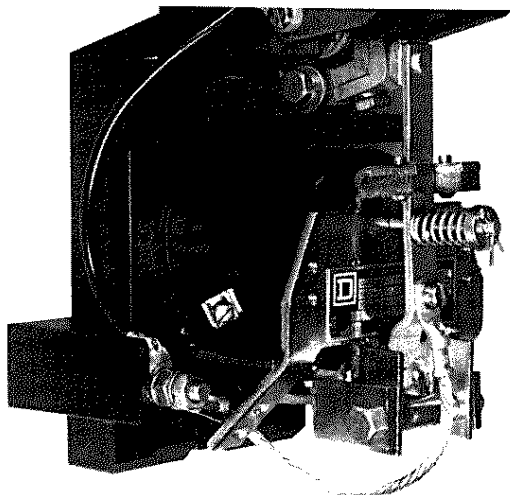

Figure 2
2. Check that the movable contact tip is securely fastened to the contact arm assembly (17) with the contact arm spring, cup washer and cotter pin and that the movable contact tip is properly seated in the slot in the contact arm assembly (Fig. 2).
3. Check that the stationary contact tip is properly seated against the stationary support of the contactor (Fig. 2).
2. Disconnect the top end of the shunt by removing the pan head screw (22), lockwasher (23) and washer (24) (Fig. 2).